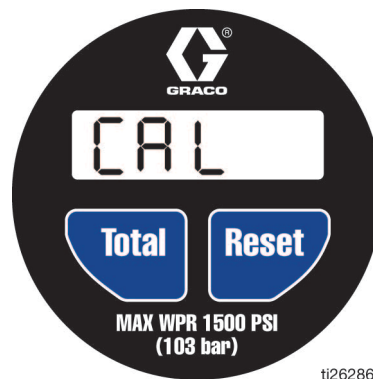

FIG. 8
1. Press TOTAL and RESET together and hold for one second (FIG. 8).
3. CAL appears on the display to indicate that the meter is ready for Calibration (FIG. 8).